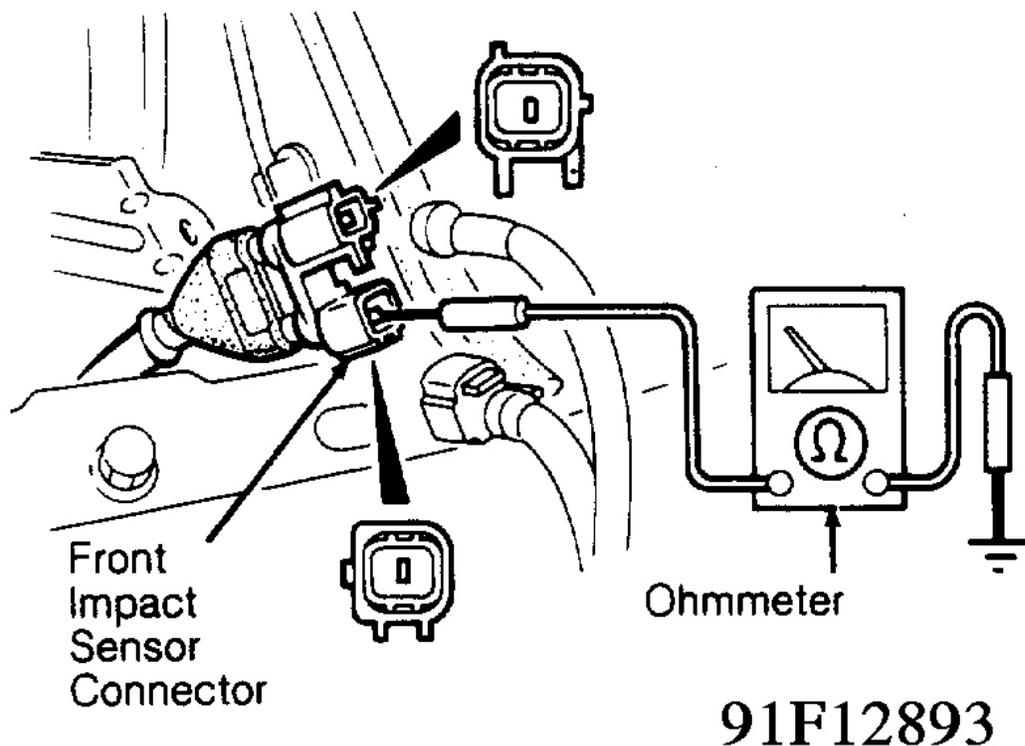

Fig. 15: Checking Continuity at Right Front Impact Sensor Connector
4. Disconnect right front impact sensor connector. Check continuity between ground and each harness sensor terminal. See **Fig. 15** . If continuity is present, replace wire harness assembly. If continuity is not present, go to step 7).